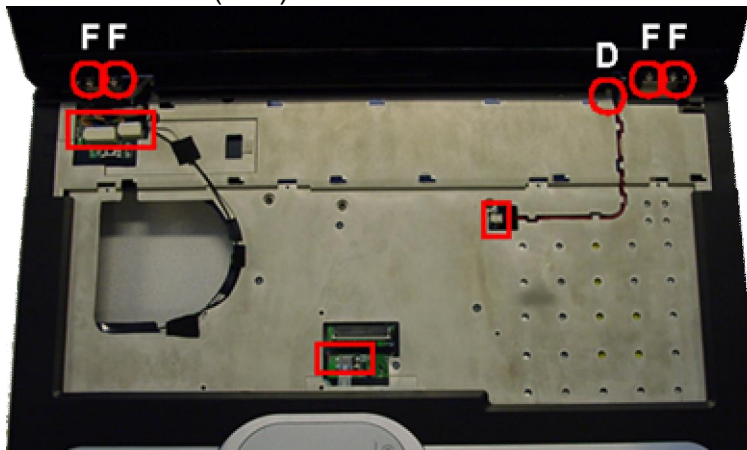

Fig. 11 Lid switch and hinges.
3. Remove the screws (4xF) from the hinges (see Fig. 11).